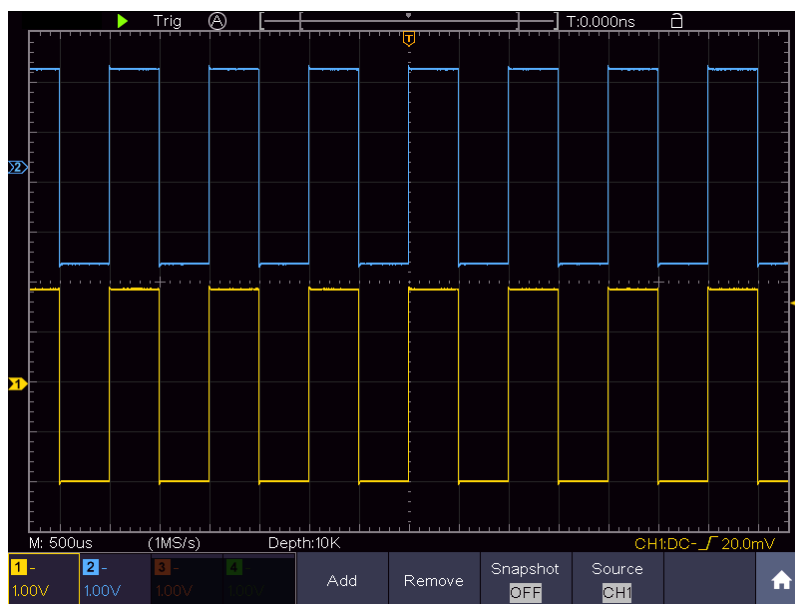

Figure 9-2 Waveform of Gain Measurement
- (1) Push the **Autoset** button and the oscilloscope will automatically adjust the waveforms of the two channels into the proper display state.
- (2) Push the **Measure** button to show the Measure menu.
- (3) Select **Add** in the bottom menu.
- (4) In the left Type menu, turn the **M** control to select **PK-PK**.
- (5) In the right menu, select **CH1** in the **Source** menu item.
- (6) In the right menu, select **Add**. The peak-to-peak type of CH1 is added.
- (7) In the left Type menu, turn the **M** control to select **PK-PK**.
- (8) In the right menu, select **CH2** in the **Source** menu item.
- (9) In the right menu, select **Add**. The peak-to-peak type of CH2 is added.
- (10) Read the peak-to-peak voltages of Channel 1 and Channel 2 from the bottom left of the screen (see Figure 9-2).
- (11) Calculate the amplifier gain with the following formulas.